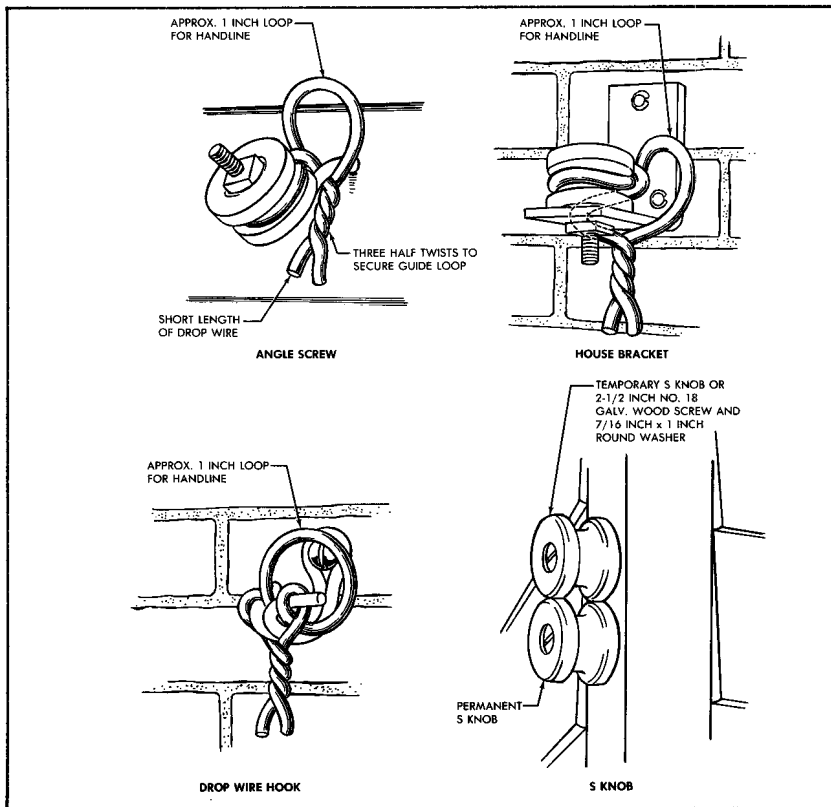

FIGURE 3. Temporary Guide Loop—Building
c. Place a handline over the first building attachment so the end of the handline toward the wire span just reaches the ground. Attach a temporary guide loop to the first building attachment around the handline (Figure 3) to prevent the handline from becoming accidentally disengaged from the building attachment during the lowering operation.